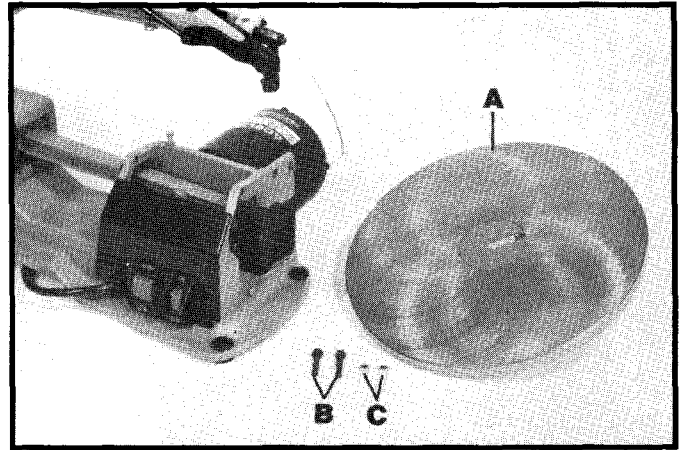

Fig. 2
1. To assemble the table (A) Fig. 2, to the machine, find the two special screws (B) and two locknuts (C).